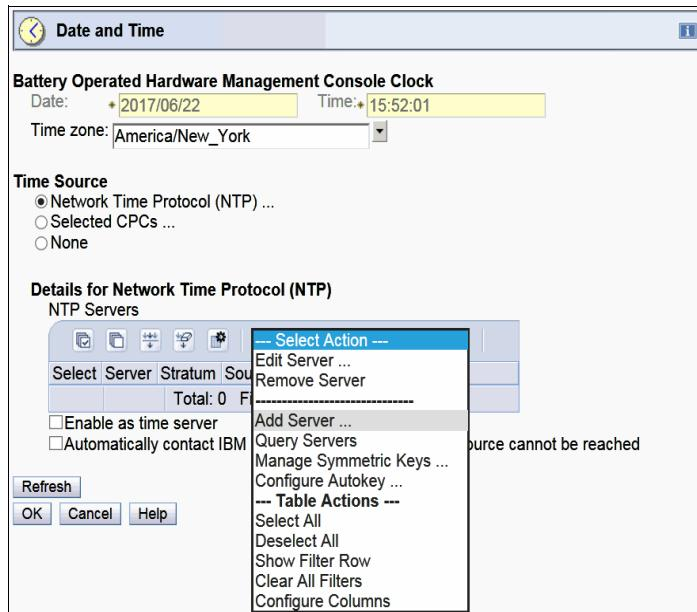

Figure 8-5 Customize Console Date - Time Add Server
3. Select **Add Server** from the **Select Action** list (Figure 8-5).